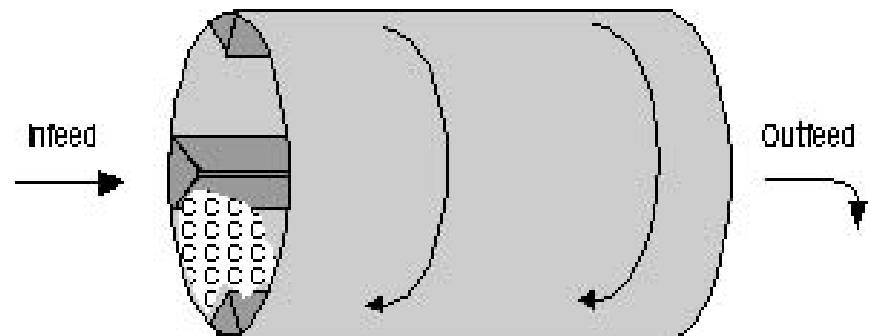

Figure 5.
**Rotating drums** mix materials by tumbling them in a rotating cylinder (Figure 5).